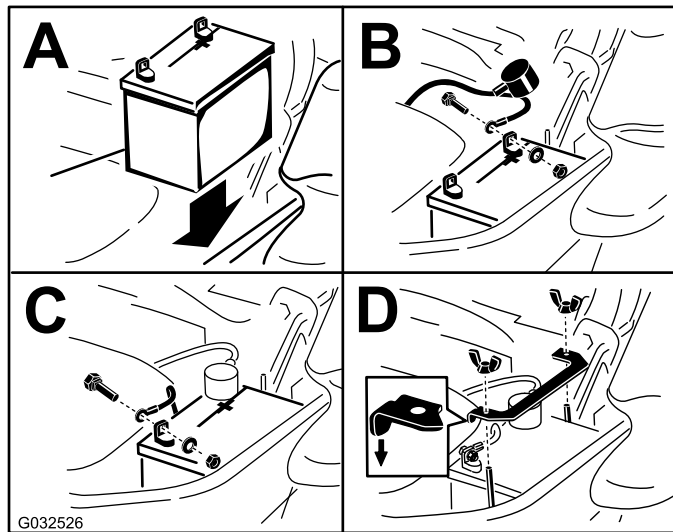

Figure 64
**Note:** Position the battery in the tray with the terminal posts opposite from the hydraulic tank (Figure 64).